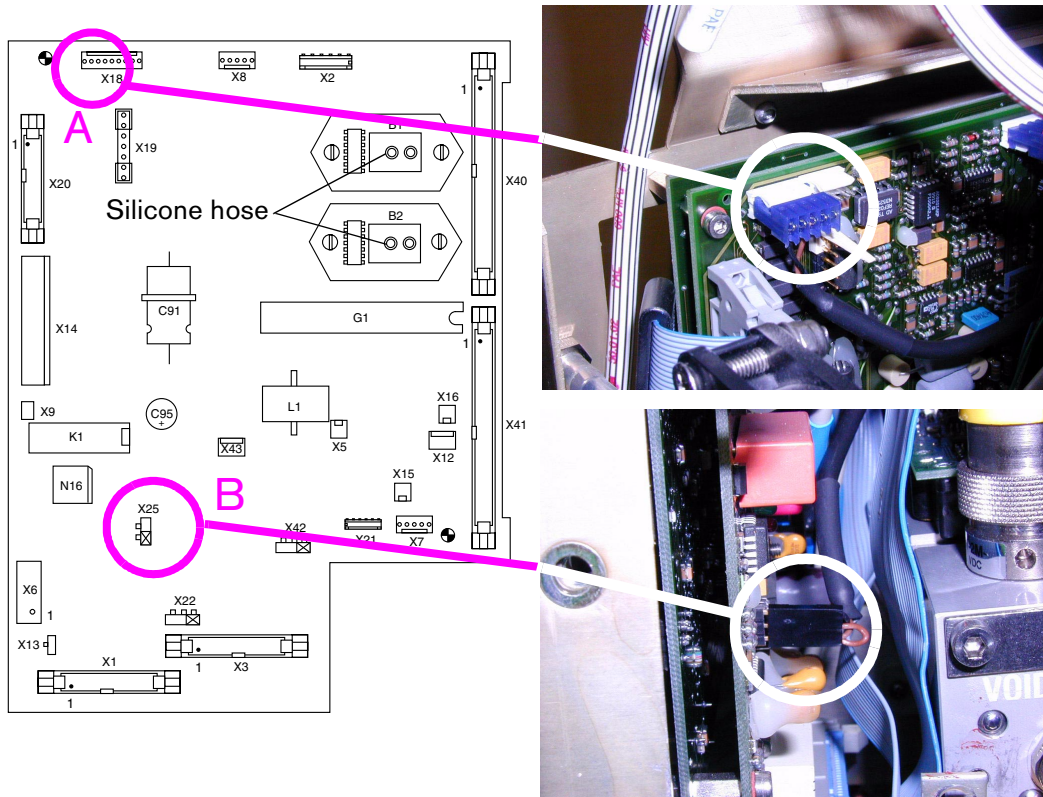

Fig. 1: Location of the connectors
7. Mount the connector of the enclosed cable harness onto the Actuator PCB (see Figure 1). Plug the 5-pin white connector into X18 (A) (left-aligned). Remove jumper X25 (B) and mount the 3-pin black connector including the connector protection. The two cables of the same color point downwards (jumper simulation).